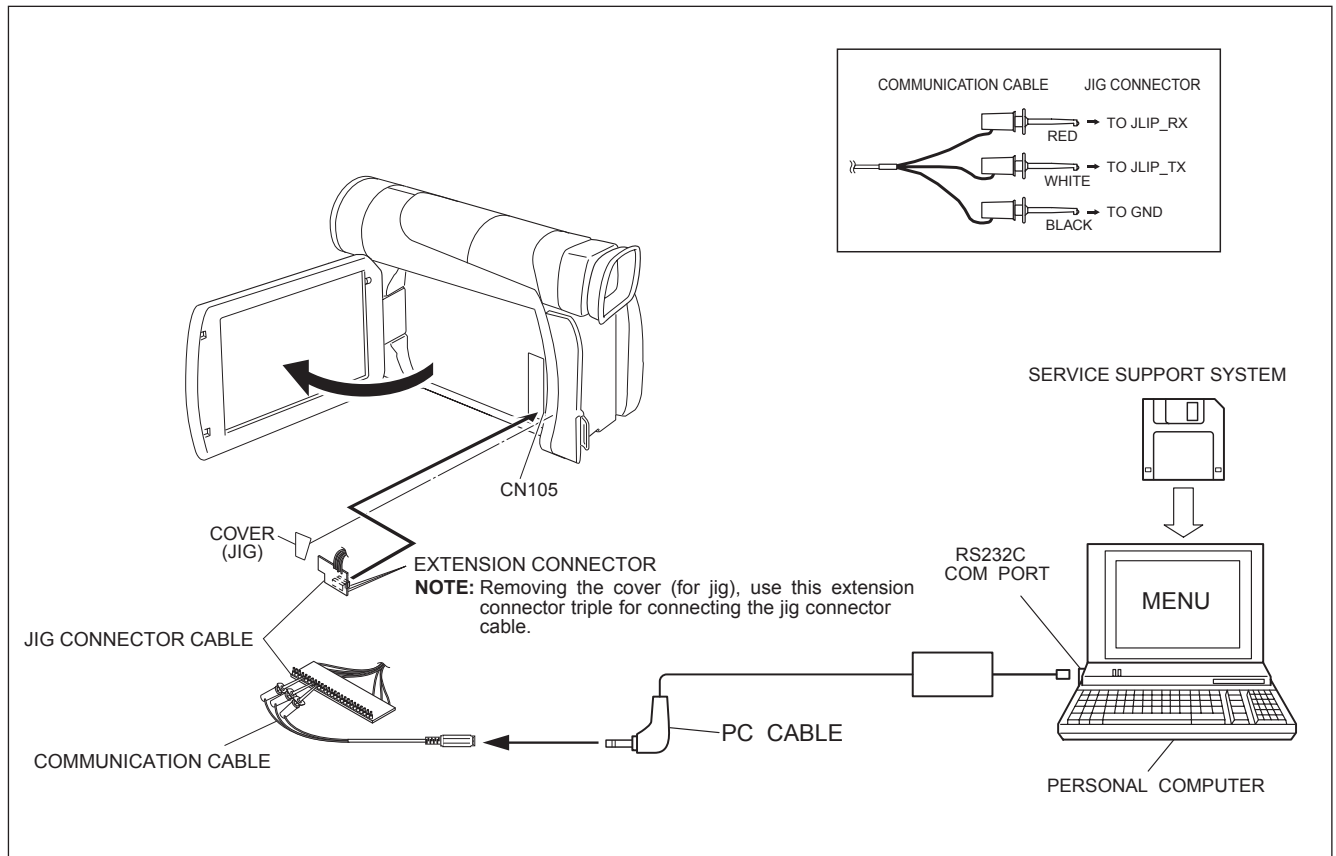

Fig.3-5-1
- Electrical adjustments are performed by using PERSONAL COMPUTER. As for the connection of cables, see Fig. 3-5-1. Read README.TXT file to use the software for SERVICE SUPPORT SYSTEM properly.